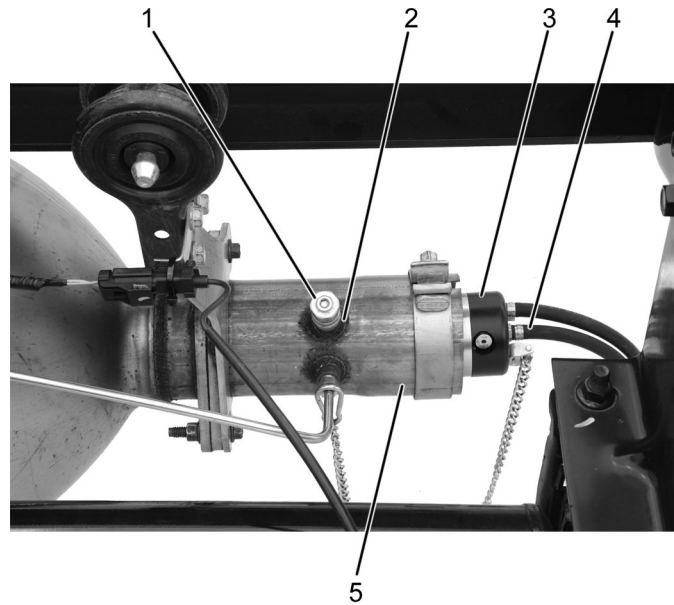

Figure 15. Block-Off Coupler and Powersmoke Adapter 2.9 In.
1. Install block-off coupler (Figure 15, Item 1) onto DPFOT sensor port (Figure 15, Item 2).
2. Install Powersmoke™ Adapter 2.9 in (Figure 15, Item 3) into tailpipe (Figure 15, Item 5) and inflate per Navistar® Leak Locator Operation Manual.
3. Connect Navistar® Leak Locator supply line (Figure 15, Item 4) to Powersmoke™ Adapter 2.9 in (Figure 15, Item 3).
1. Disconnect Navistar® Leak Locator supply line (Figure 15, Item 4) from Powersmoke™ Adapter 2.9 in (Figure 15, Item 3).
2. Deflate and remove Powersmoke™ Adapter 2.9 in (Figure 15, Item 3) from tailpipe (Figure 15, Item 5) per Navistar® Leak Locator Operation Manual.
3. Remove block-off coupler (Figure 15, Item 1) from DPFOT sensor port (Figure 15, Item 2).